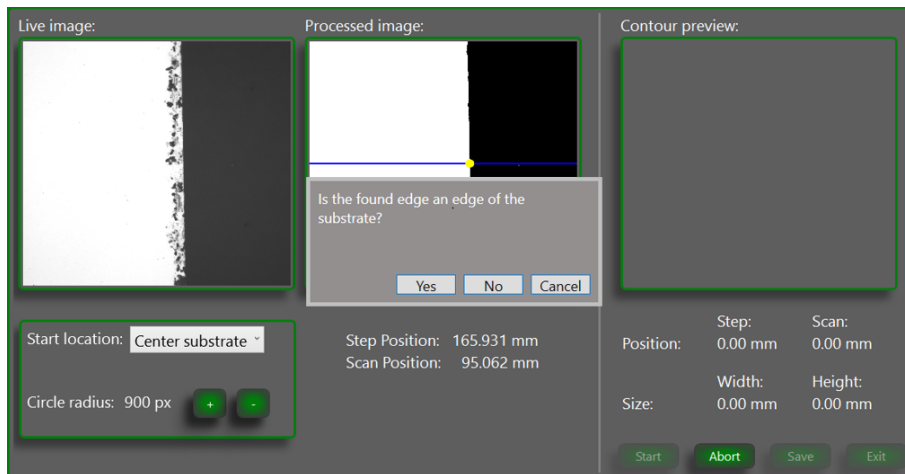

Figure 3-26 Polygon edge found
7. When edges are found, inspect the **Processed Image** window and press **Yes** to confirm or **No** to reject until all edges are found, see the example in Figure 3-26.